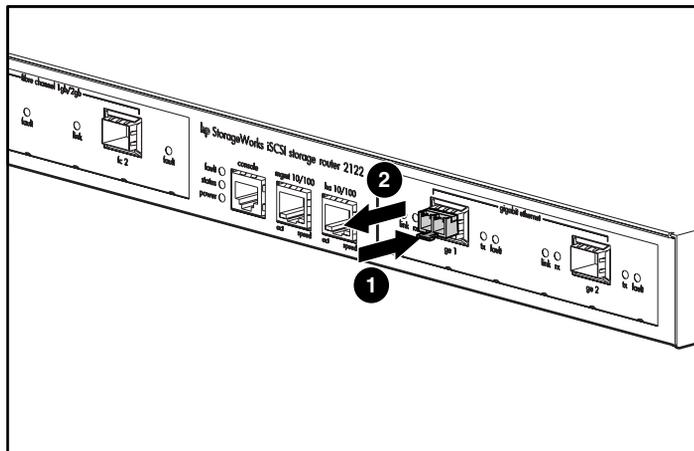

Figure 20: Removing an actuator/button SFP module from a port
1. Gently press the actuator/button **1** on the front of the SFP module until it clicks and the latch mechanism activates, releasing the SFP module from the port (see Figure 20).
2. Grasp the actuator/button between your thumb and index finger and carefully pull the SFP module **2** from the port (see Figure 20).